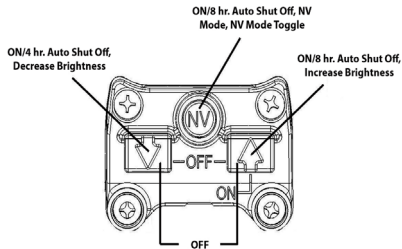

Fig 4: Pushbutton interface
All electronic controls are via pushbutton switches located at the rear of the unit housing as shown in Fig. 4. To ensure proper operation of the pushbutton switches, press firmly on the center of the switch.
Pressing the NV Button (see Fig. 4) will turn the sight ON in Night Vision Mode. The sight will turn on at Level 4 and automatically shut off 8 hours after the last pushbutton control is used. There are ten (10) NV brightness settings provided to allow the user to adjust the reticle brightness to their preference.